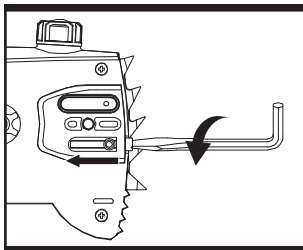

Fig. 3
- d). Use the screwdriver end of the multi tool (24, provided) to turn the chain tension screw in a counter-clockwise direction. The tension pin is moved toward the left. (See Fig.3)